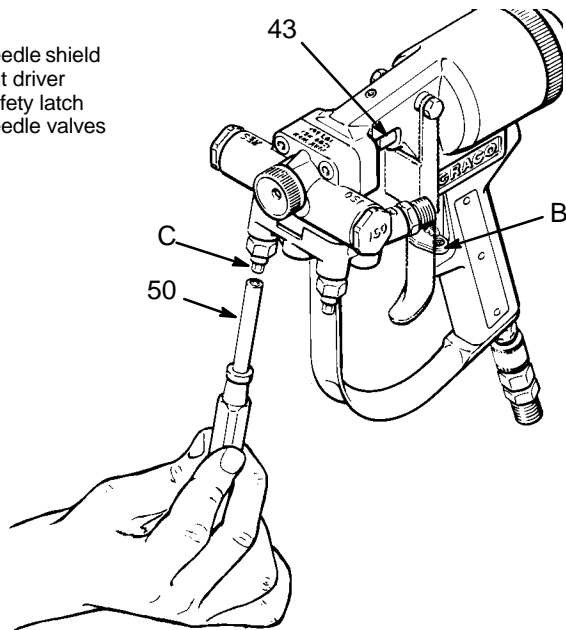

Fig. 17
Coat it with grease or cover it with a plastic bag. Be sure the plastic shield (43) is in place around the exposed area of the needle. See Fig. 17.